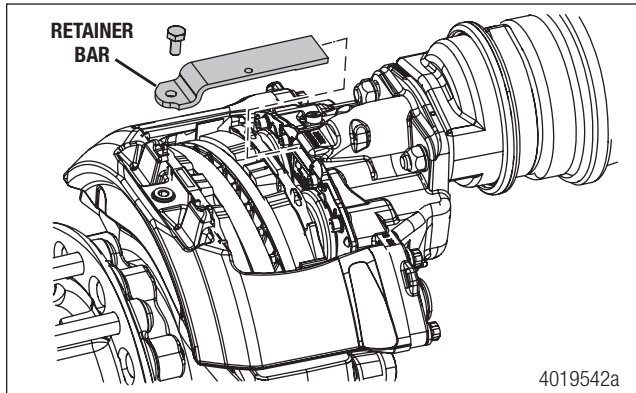
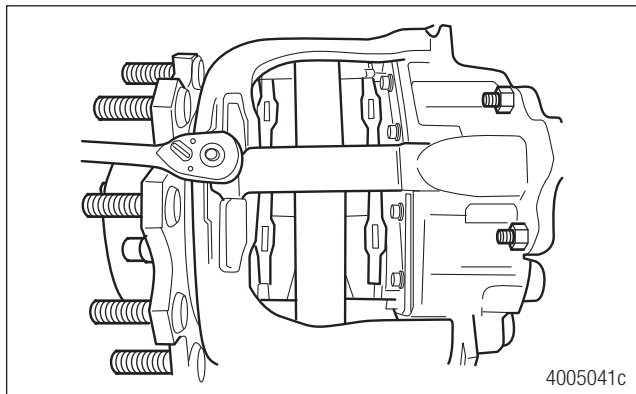

Figure 26
Figure 27
19. Insert the pad retainer bar into the slot on the caliper. Install the pad retainer bolt. Press down on the bar as needed to start the bolt into the threads. Tighten the bolt to 25-30 lb-ft (34-40 Nm). Figure 26 and Figure 27.